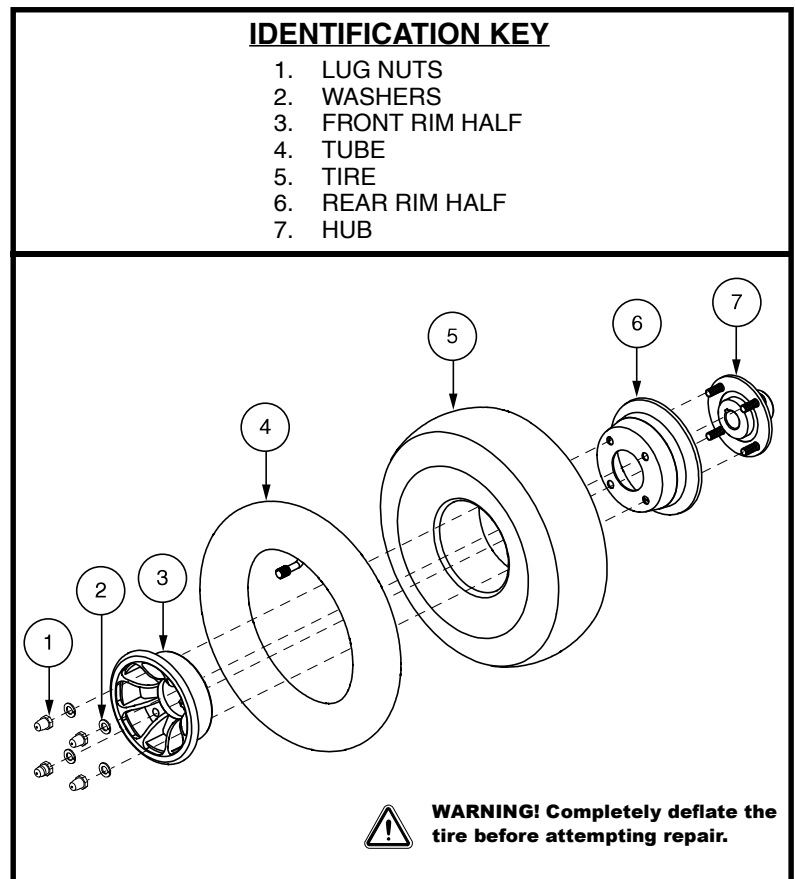

Figure 30. Pneumatic Drive Wheel Disassembly/Assembly
6. Remove the lug nuts and washers and separate the rim halves. **See figure 30.**
7. Remove the old tube from the pneumatic tire and replace it with a new tube. **See figure 30.**